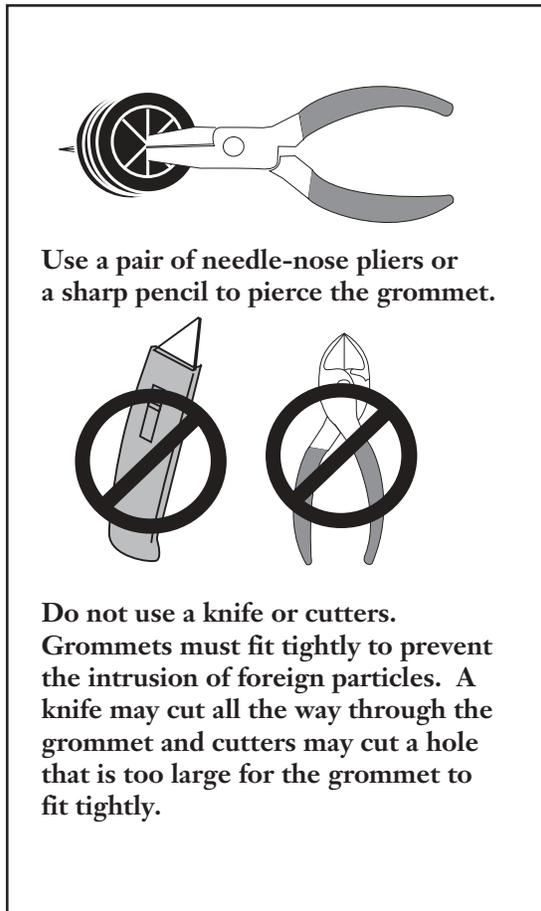

Figure 10 — Grommet Preparation
9.2 Once you have determined the top or bottom exit of the outgoing jumpers, prepare the appropriate entry grommet as shown in Figure 10.